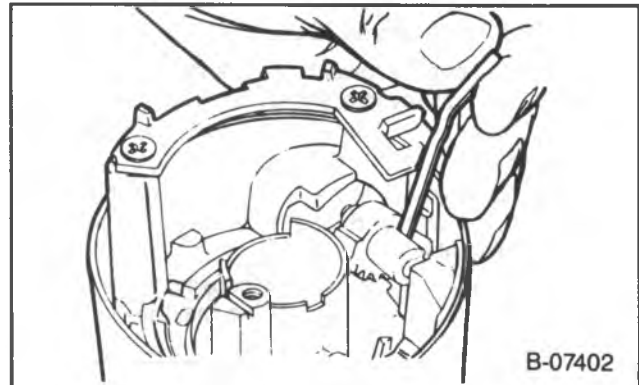
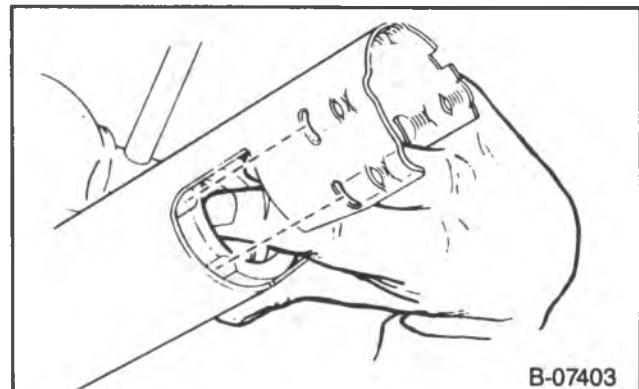

Figure 26 — Rack Preload Spring Installation
Figure 27 — Gearshift Housing Lower Bearing Installation
3. Rack preload spring (48) into the housing from the bottom side. The long section should be toward the handwheel and hook onto the edge of the housing (figure 26).
4. Locking bolt (47) onto the crossover arm on the rack (49) and insert the rack and lock bolt assembly into the housing from the bottom with the teeth up (toward handwheel) and toward the centerline of the column.
5. Retainer (45) and bushing (43).
- Align the indentations in the bearing with the projections on the jacket (figure 27). If the bearing is not installed correctly, it will not rest on the stops provided.
7. Shift lever spring (56) into the gear shift lever (or lock tube) housing.
8. Housing (57) and shroud (59) assemblies onto the upper end of the mast jacket.
- Seat the turn signal housing and install the four screws (35).